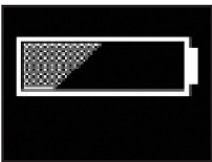

Fig. 18
The display showing a half empty battery indicates that it is time to charge the battery (Fig. 18).
To avoid possible permanent damage to the battery, the battery should be placed on charge as soon as the display indicates the half empty battery symbol (Fig. 18).
**To avoid possible permanent damage to the battery, the battery should be placed on charge as soon as the display indicates the half empty battery symbol (Fig. 18, page 15).**